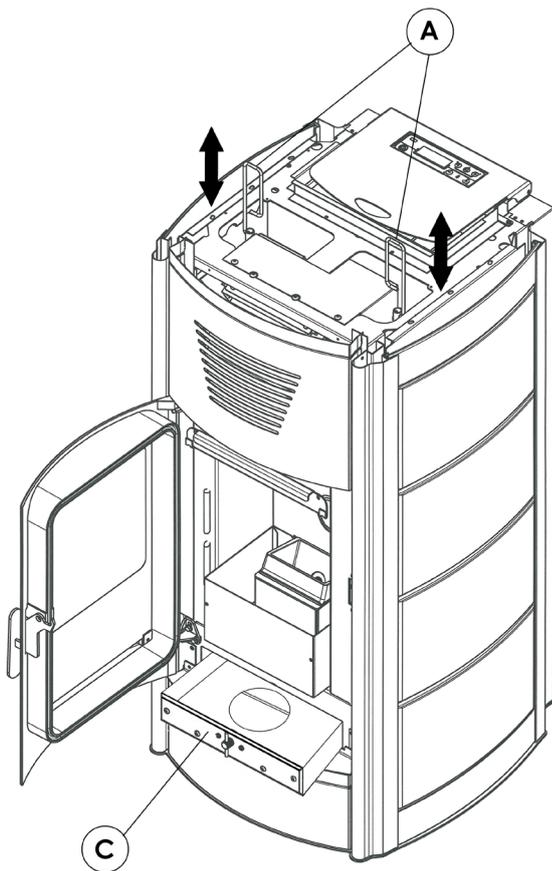
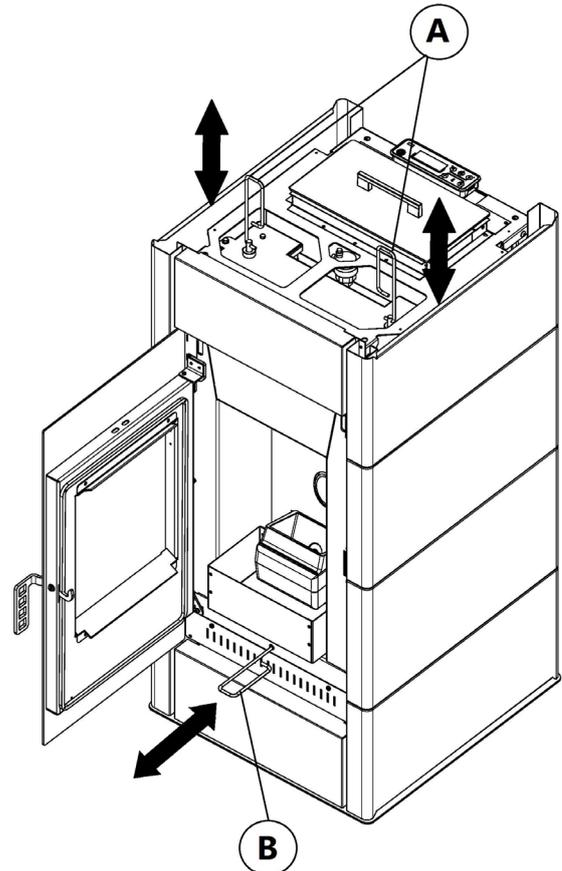

Fig. 39 - Cleaning the internal pipe unit using scrapers (Aquos 15-22-22 H2O / Ibis 15-22-22 H2O / Idron 15-22-22 H2O)
Fig. 40 - Cleaning the lower drawer (Ibis 11 / Idron 11)
- Clean the pipe unit – Using the hook provided, shake the rods located under the top (A to **Fig. 39 page 46** and **Fig. 40 page 46**) vigorously 5-6 times. This operation removes the soot that has deposited on the exchanger smoke ducts during normal stove operation.
- Clean the smoke conveyor compartment see **Fig. 39 page 46** for AQUOS 15-22-22 H2O / IBIS 15-22-22 H2O / IDRON 15-22-22 H2O models - Stoves are fitted with a removable ash pan "C" designed to collect any soot and ash build-up.
- Clean the smoke conveyor compartment see **Fig. 40 page 46** for IBIS 11 / IDRON 11 models - Open the door, insert the hook onto the rod of the scraper B, shake it vigorously 5-6 times along the entire length. Remove the hook and reposition the rod B fully in its seat. This will help the fan expel any soot build-up which may have fallen during the previous pipe unit cleaning process. (After shaking the rods A, always shake the scraper B too).